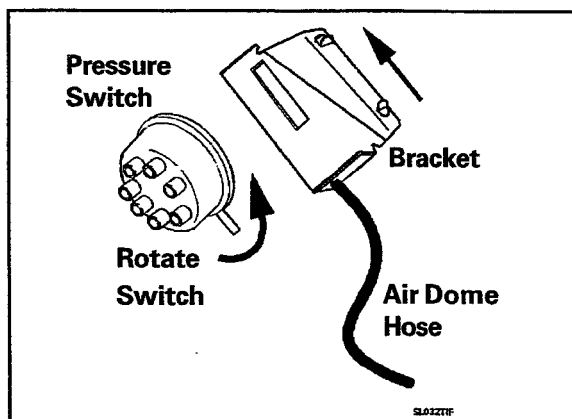

Figure 2-32
The water pressure switch is located along the rear upper cabinet flange of the washer and mounted to a galvanized bracket secured to the flange. The air dome hose is inserted into the lower end of the mounting bracket (*Figure 2-32*). The nipple of the pressure switch is inserted into the end of the air dome hose which is secured by the lower mounting bracket.
4. Slide the pressure switch up, away from the air dome hose (*Figure 2-32*).
- Rotate the pressure switch 90 degrees to disengage locking tabs on the back of the switch from the mounting bracket (*Figure 2-32*).
- Slide the pressure switch up on the mounting bracket, away from the air dome hose. The mounting bracket for the pressure switch is secured to the rear cabinet flange of the washer cabinet (*Figure 2-32*).